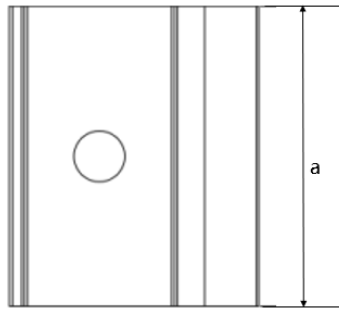
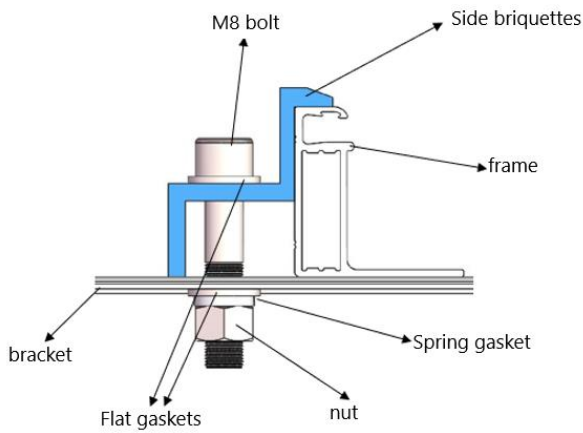

Figure 14 Top view of fringe clamp
Figure 16 Installation schematic diagram of fringe clamp
- ② Be sure to avoid shadowing effects from the module clamps. Weep holes on the module frame must not be closed or obscured by the clamps. The clamp must have at least 8mm but no more than 11mm overlap with the frame of the module (The clamp section can be changed under the premise of ensuring reliable installation).
- ③ The top surface of the rail contacted with module frame should be equipped with grooves compatible with an M8 bolt.
- ④ If the grooves are not provided, holes of a suitable diameter may need to be drilled to allow bolts attaching to the rail at the same locations as mentioned above.
- ⑤ Ensure that the mounting sequence of each clamp is in the order of flat washer, spring washer and nut.
- ⑥ Figures 14 and 15 show the schematic diagram of the clamp, while Figures 16 and 17 show the installation schematic diagram of the clamp. The dimensions of the clamp are  $a \geq 40$  mm,  $b \geq 16$  mm,  $c \geq 5$  mm,  $d \geq 8$  mm,  $e \geq 15$  mm,  $\varnothing = 9$  mm, and the thickness of the clamp is  $\geq 3$  mm. For module of 182/210mm-wafer, the size of mid and fringe clamp must meet  $a \geq 60$  mm. The tightening torque is suggested to be 17~23Nm for Class 8.8 screw and bolts.